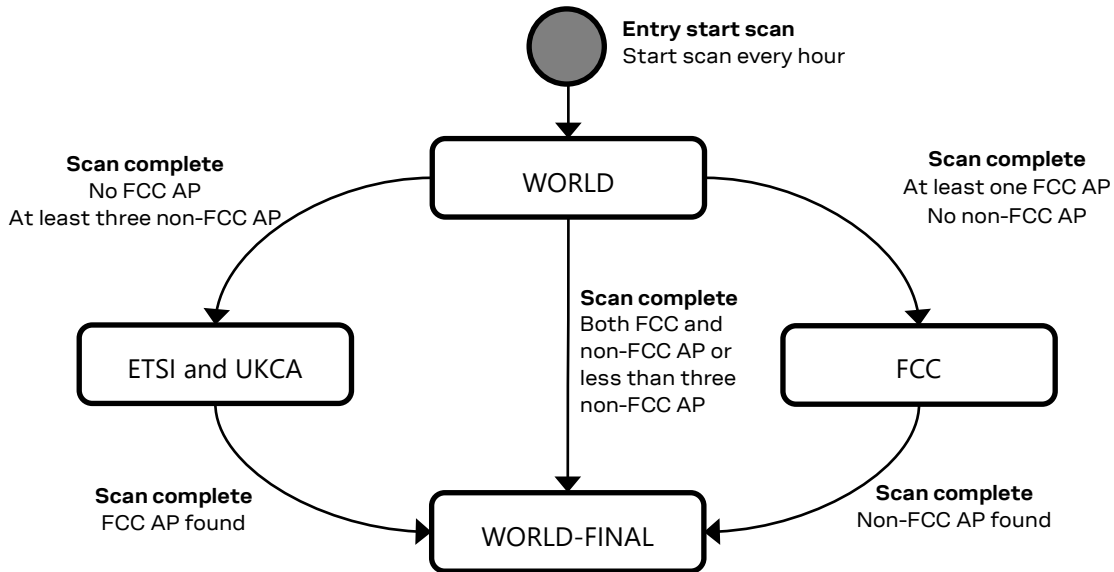

Figure 2: NINA-W15_DataSheet_UBX-18006647NINA-W15 series IEEE 802.11d state transition diagram
- **WORLD:** In this domain, NINA-W1 modules operate on all channels supported both by FCC, ETSI, UKCA, and most other countries in the world. This is the initial regulatory domain. If subsequent scans contain country information for both FCC and non-FCC countries, the regulatory domain is always set to WORLD. In Figure 2 this state is shown as WORLD-FINAL. This state is not exited until the device is reset.
The state transition diagram shown in Figure 2 describes the algorithm for selecting the current regulatory domain.